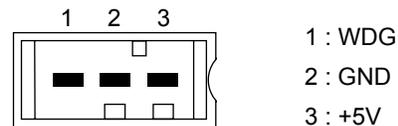

Figure 4 Pin connections of SCN-x
- ten connectors (SCN-1 to SCN-10) for connecting non-redundant I/O backplanes (10314/1/1) (see Figure 4),
Figure 4 below shows the pin connections of the SCN-x connectors, which are used to connect non-redundant I/O backplanes.